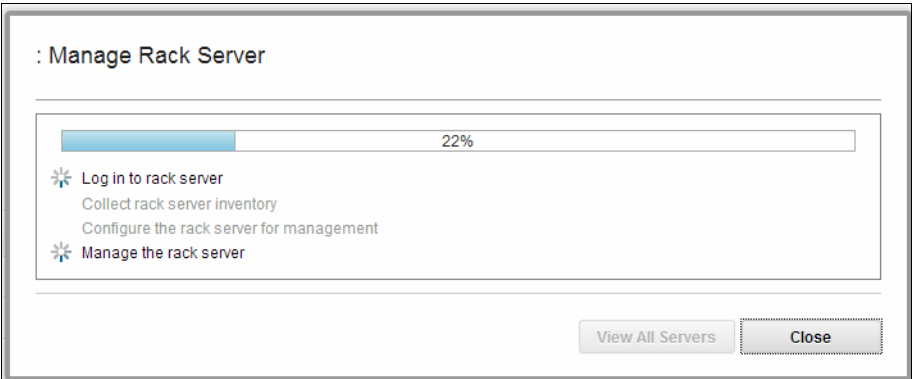

Figure 7-6 Discovering the SR950 server
5. When the credentials have been entered, click the **Manage** button to start managing the server. LXCA will look for the IP address on the network as shown in Figure 7-6 and add it to the managed server list.